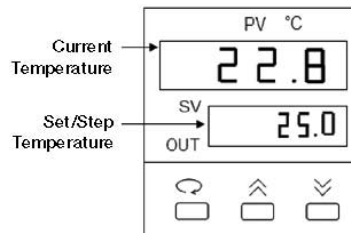

Fig. 1. Temperature Control Screen.
- The temperature control screen (see Fig. 1).
1. From the temperature control screen, use the arrow keys to adjust the Set Temperature to your desired target temperature in °C (Fig. 1)
**Note:** Following programming by default the controller displays the Step Temperature rather than the Set Temperature (see Fig 1. below). The step temperature is the next temperature value the system will reach as it heats/cool to reach set temperature. To display the Set Temperature press the ↻ key.